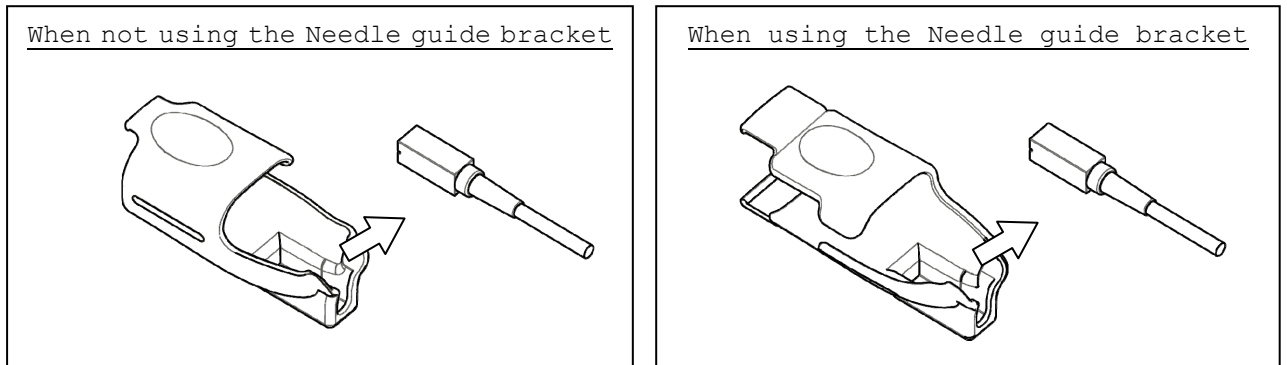

Fig. 7 How to release the magnetic sensor
b) Release the magnetic sensor from the magnetic sensor attachment as shown in Fig. 7.